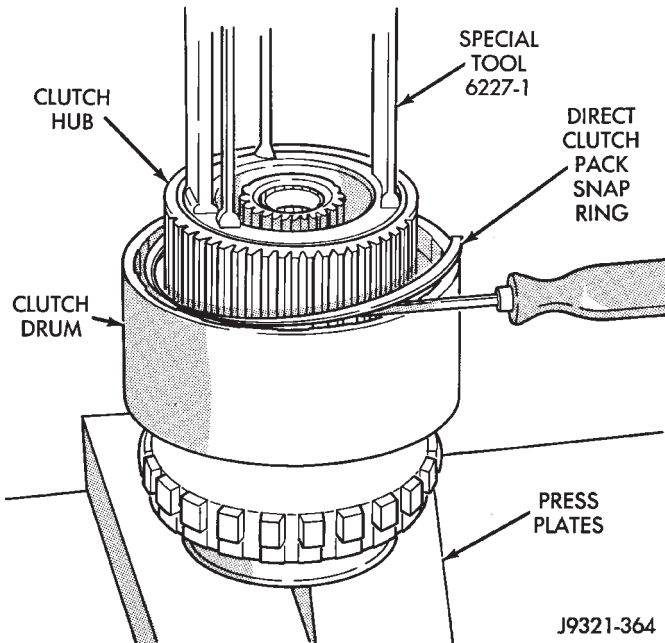

Fig. 198 Direct Clutch Pack Snap Ring Removal
(4) Remove direct clutch pack snap ring (Fig. 198).